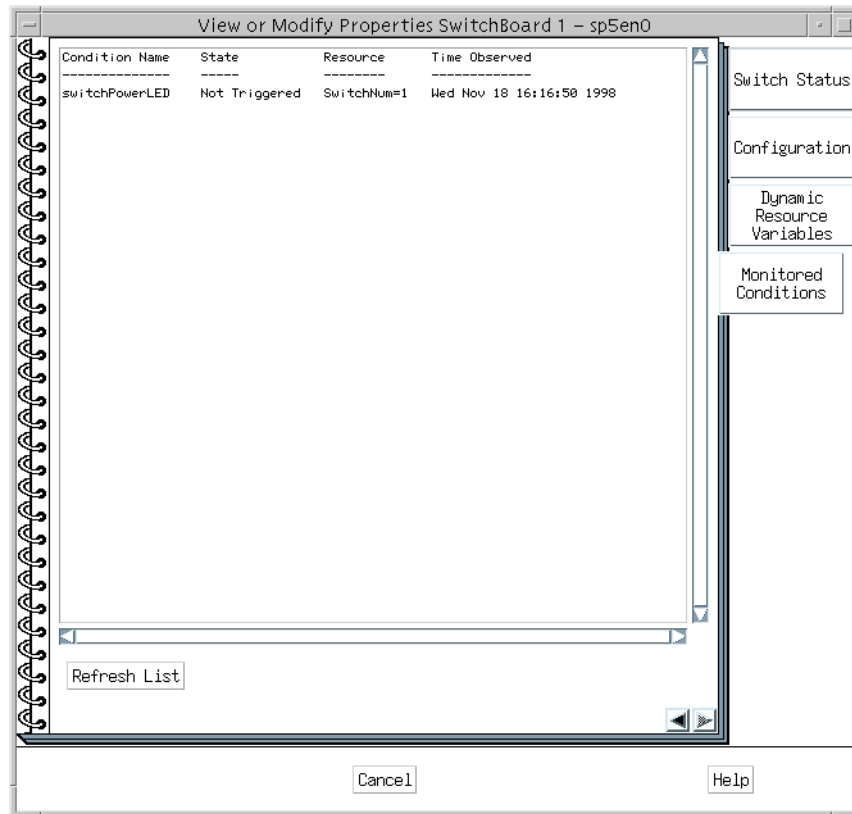

Figure 63. Monitored conditions page of SwitchBoard notebook
1. Double click the **switch board** icon on which you want to check the monitored condition. You will see the View or Modify Properties SwitchBoard notebook as shown in Figure 63 on page 261.